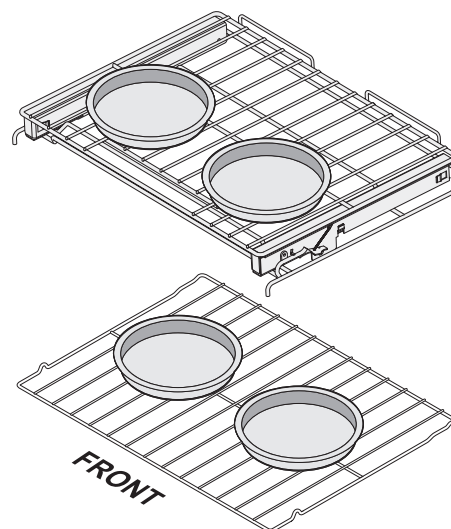

Figure 13: Cookware positioned for two rack baking
- When using two oven racks, position cookware as shown in Figure 13 with pans on top rack near front and lower rack pans in the middle of the rack. Allow at least 2-4 inches (5-10 cm) of space between cookware for proper air circulation.